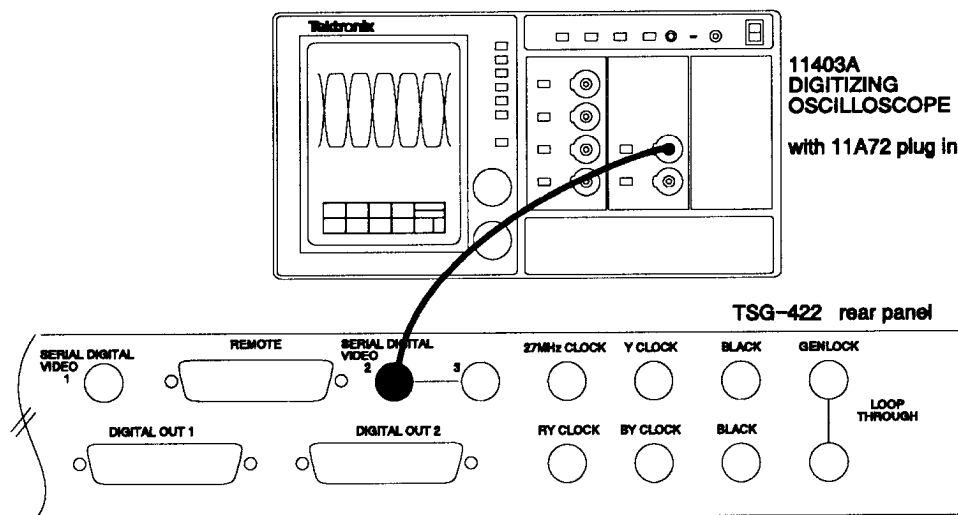

Fig. A-7. Setup to check the Serial Digital Output: Amplitude, Rise & Fall Times, Overshoot & Undershoot, and DC Level.
- d. In the **WAVEFORM HORIZONTAL DESC** menu, set the **Display Type** to: **VARIABLE PERSISTENT**. This adjustment should result in the outline of the eye pattern displayed on the screen. The eye pattern should be similar to Fig. A-7.